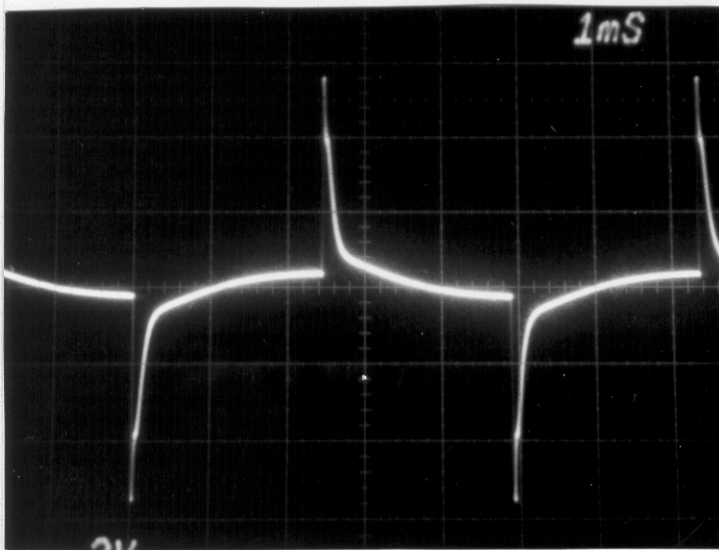
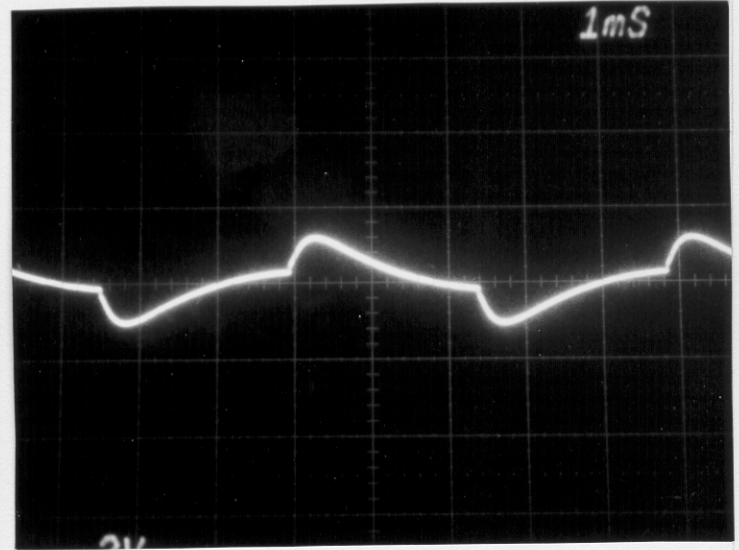

Fig. 3 Treble on 10
Fig. 4 Treble on 0
- A. TREBLE ON 10 = FIG. 3; TREBLE ON 0 = FIG. 4.